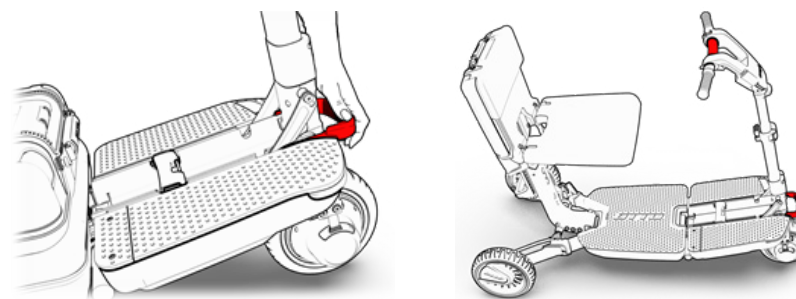

Figure 41
5. Use one hand to keep the rod upright, and with your other hand, release the front lever (see Figure 41, step 1). In case the front lever requires a significant amount of force to operate, apply horizontal pressure on the main handle toward the front of the ATTO (see Figure 41, step 2). This will release pressure on the front lever and will make it easier to open.